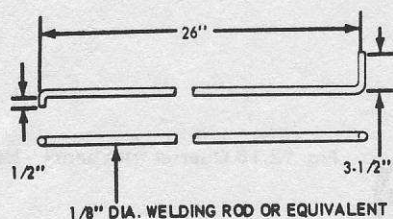

Fig. 12.18 Door latch pawl lever release tool (Sec 25)
- 1 If the door latch mechanism fails, and the door cannot be opened from either the outside or the inside of the car, get a piece of 0.125 in (3 mm) diameter rod and bend it to the dimensions in Fig. 12.18.